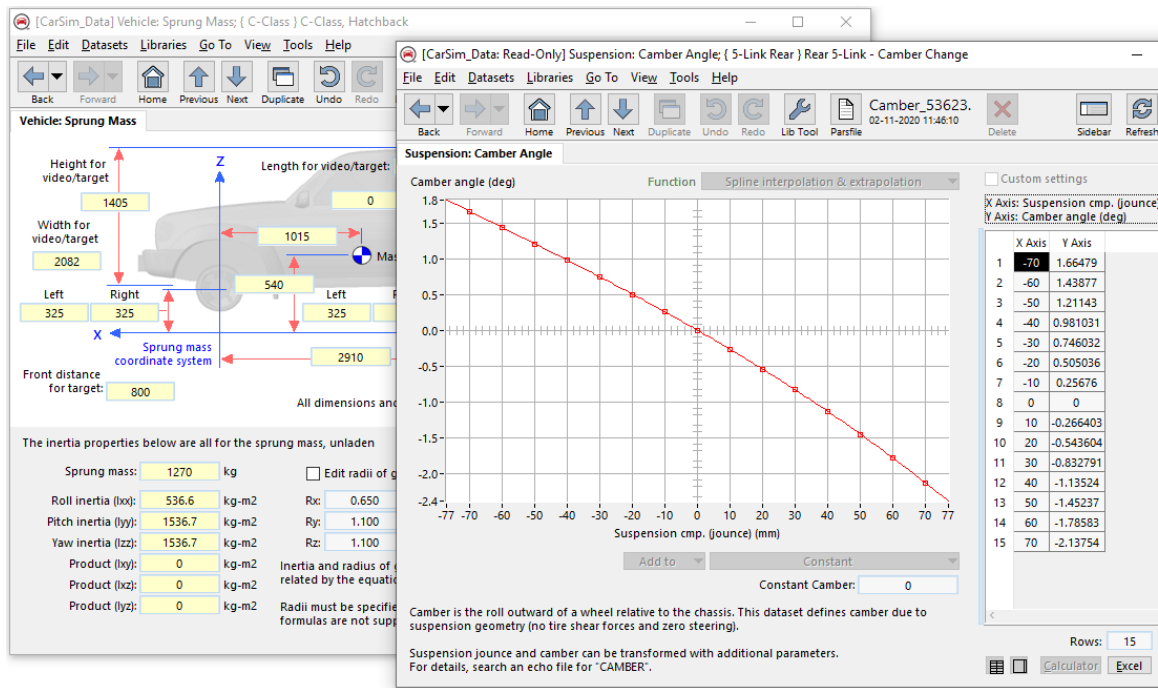

Figure 1. Parametric and tabular data used in CarSim.
**Parametric Vehicle Definition:** CarSim uses a combination of parameters and variables to represent the vehicle. As shown in Figure 1, parameters represent measurable properties such as dimensions and inertia properties. Configurable Functions relate variables in the model with linear coefficients or tables that use a variety of interpolation and extrapolation methods. Many of the tables support data obtained from suspension and tire test rigs. The tabular form is also convenient for other potentially nonlinear relationships that can be imported from spreadsheets, such as road geometry and friction.